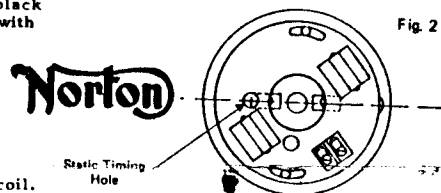

Fig 2
- 8) The magnet on one side of the rotor should now be in the centre of the top timing hole in the stator plate with it adjusted half way along its adjustment slots. If not move rotor until this is so without turning the engine from 31 B.T.D.C. See fig 2.